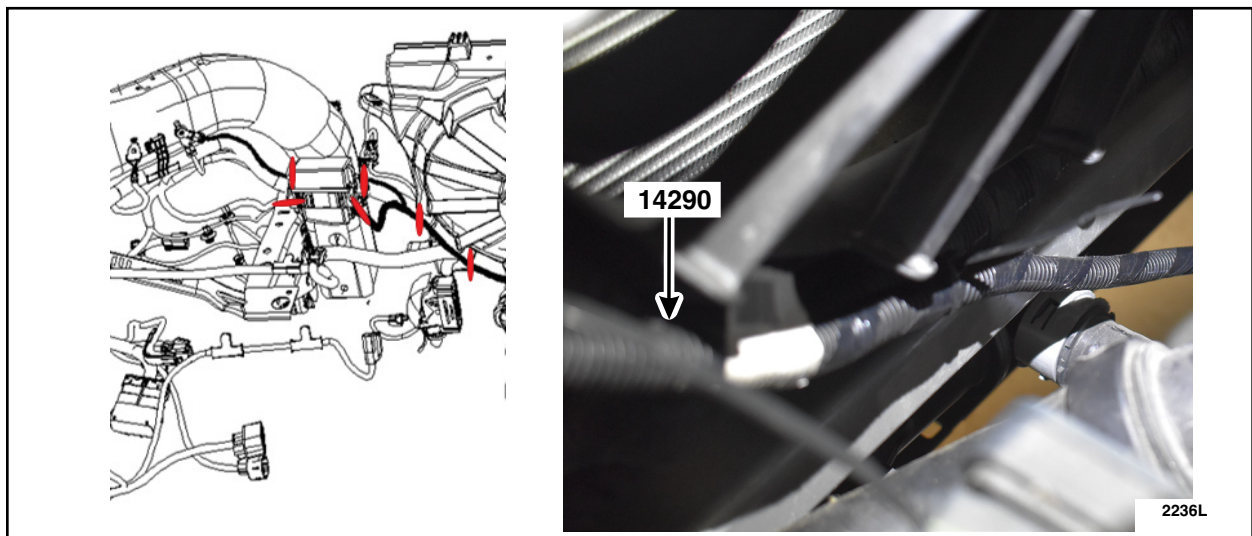

FIGURE 18
20. Secure the aux box harness bundle along with the engine bay harness (14290) using zip ties, See Figure 18.